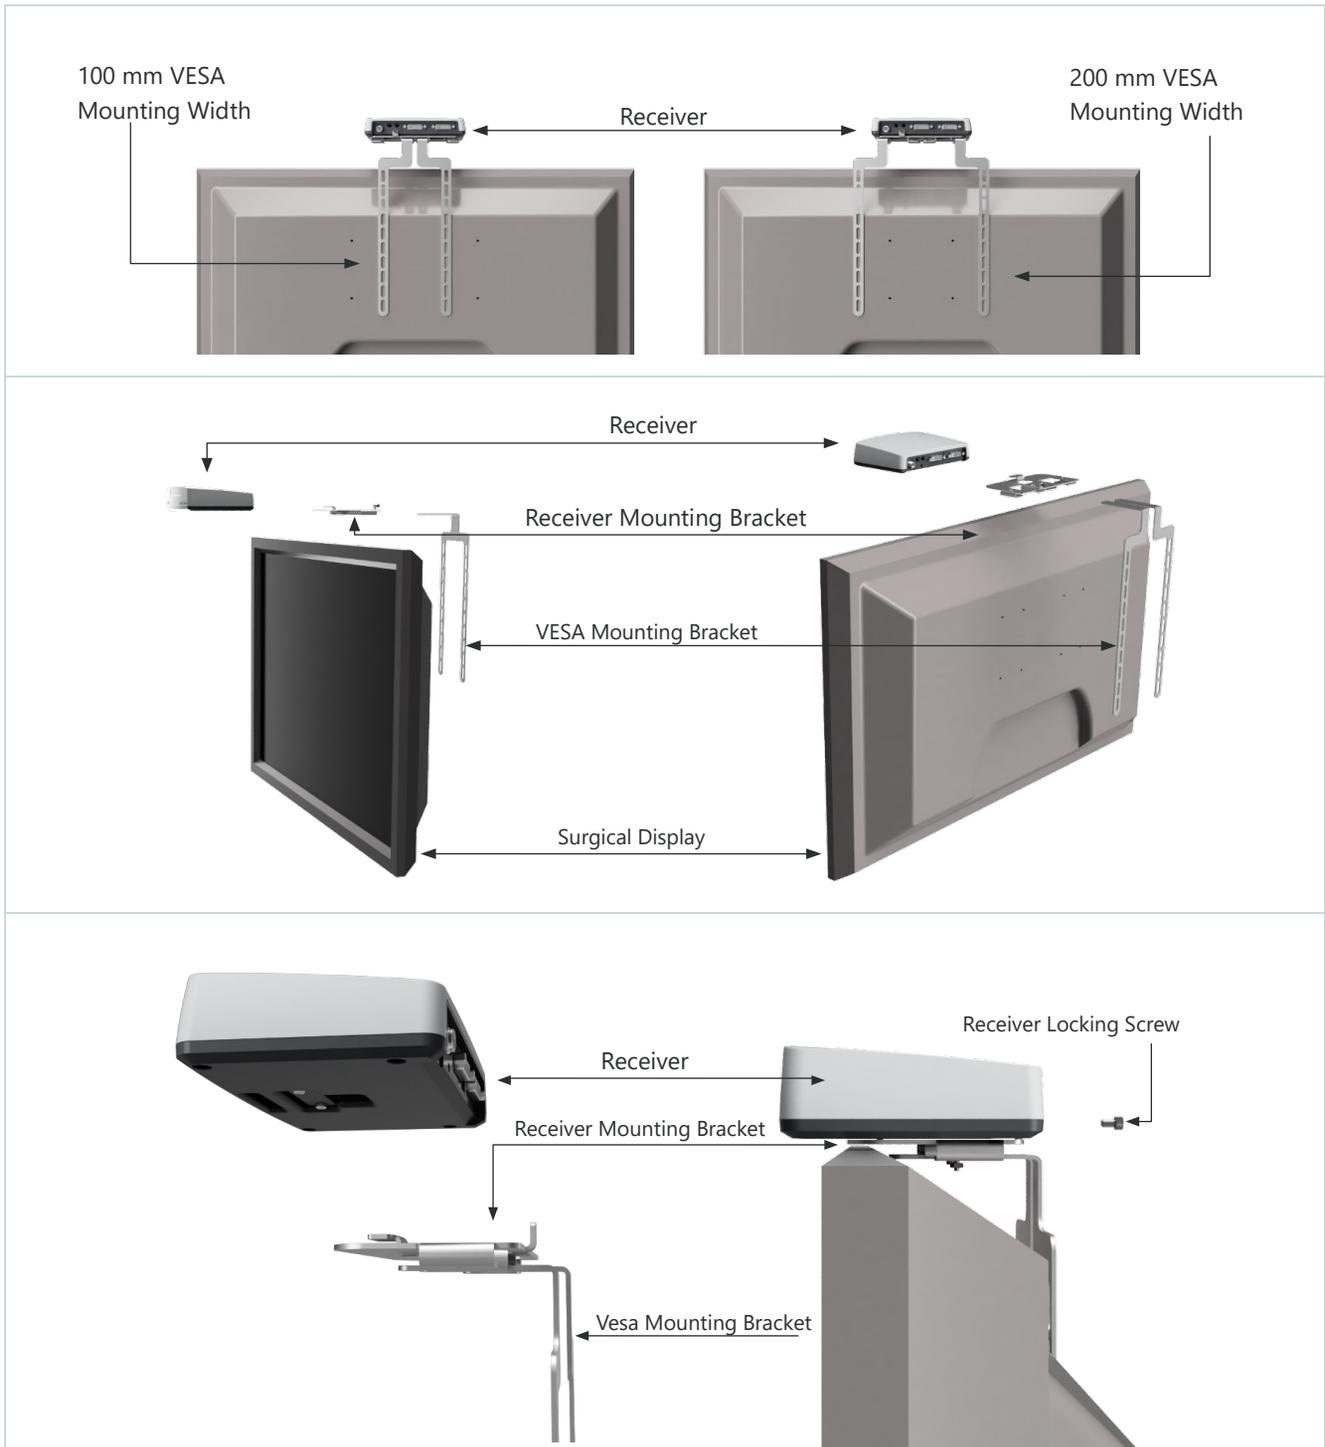

FIGURE 6. Mounting the ArthroFree Receiver on a Surgical Display
1. Connect the provided VESA mounting bracket to the back of the surgical display using the provided screws. Refer to FIGURE 6 for adjusting the bracket to match the VESA mounting pattern (100 mm or 200 mm).